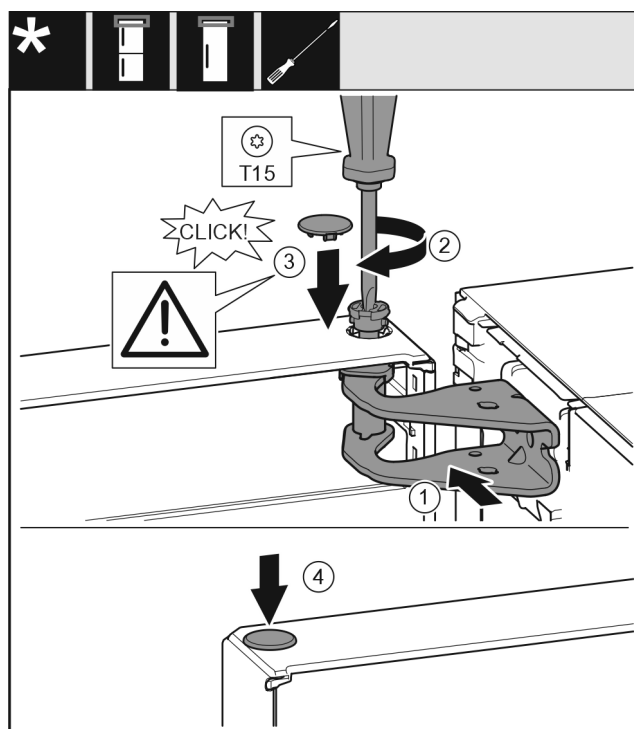

Fig. 45
- ▶ Align the door on the top towards the opening in the swap bearing block Fig. 45 (1).
- ▶ Insert the pin Fig. 45 (2) and tighten it with the screwdriver.
- ▶ Insert the cover Fig. 45 (3).
- ▶ Check to be sure that the cover Fig. 45 (3) is positioned on the door.
- ▶ Insert the cover Fig. 45 (4).